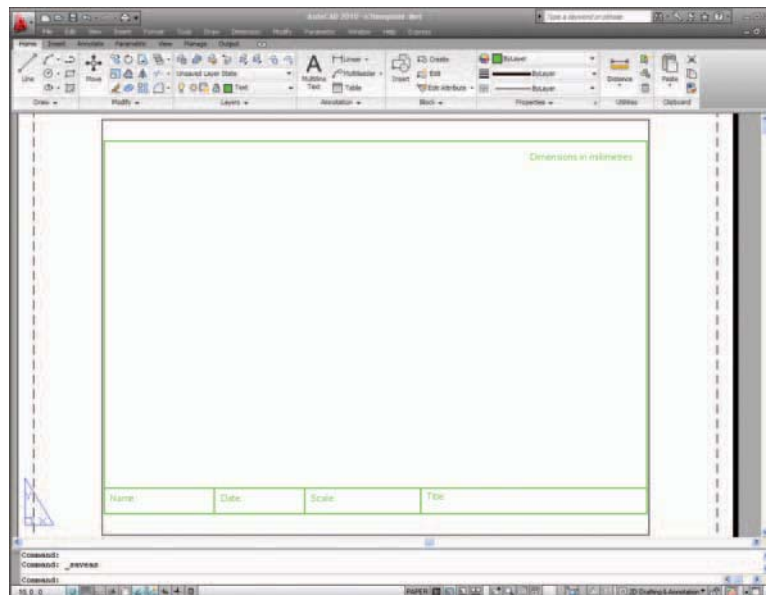

Fig. 4.24 The **A3_template.dwt**
4. It is suggested this template be saved as a **Paper Space** template with the name **A3_template.dwt** (Fig. 4.24).